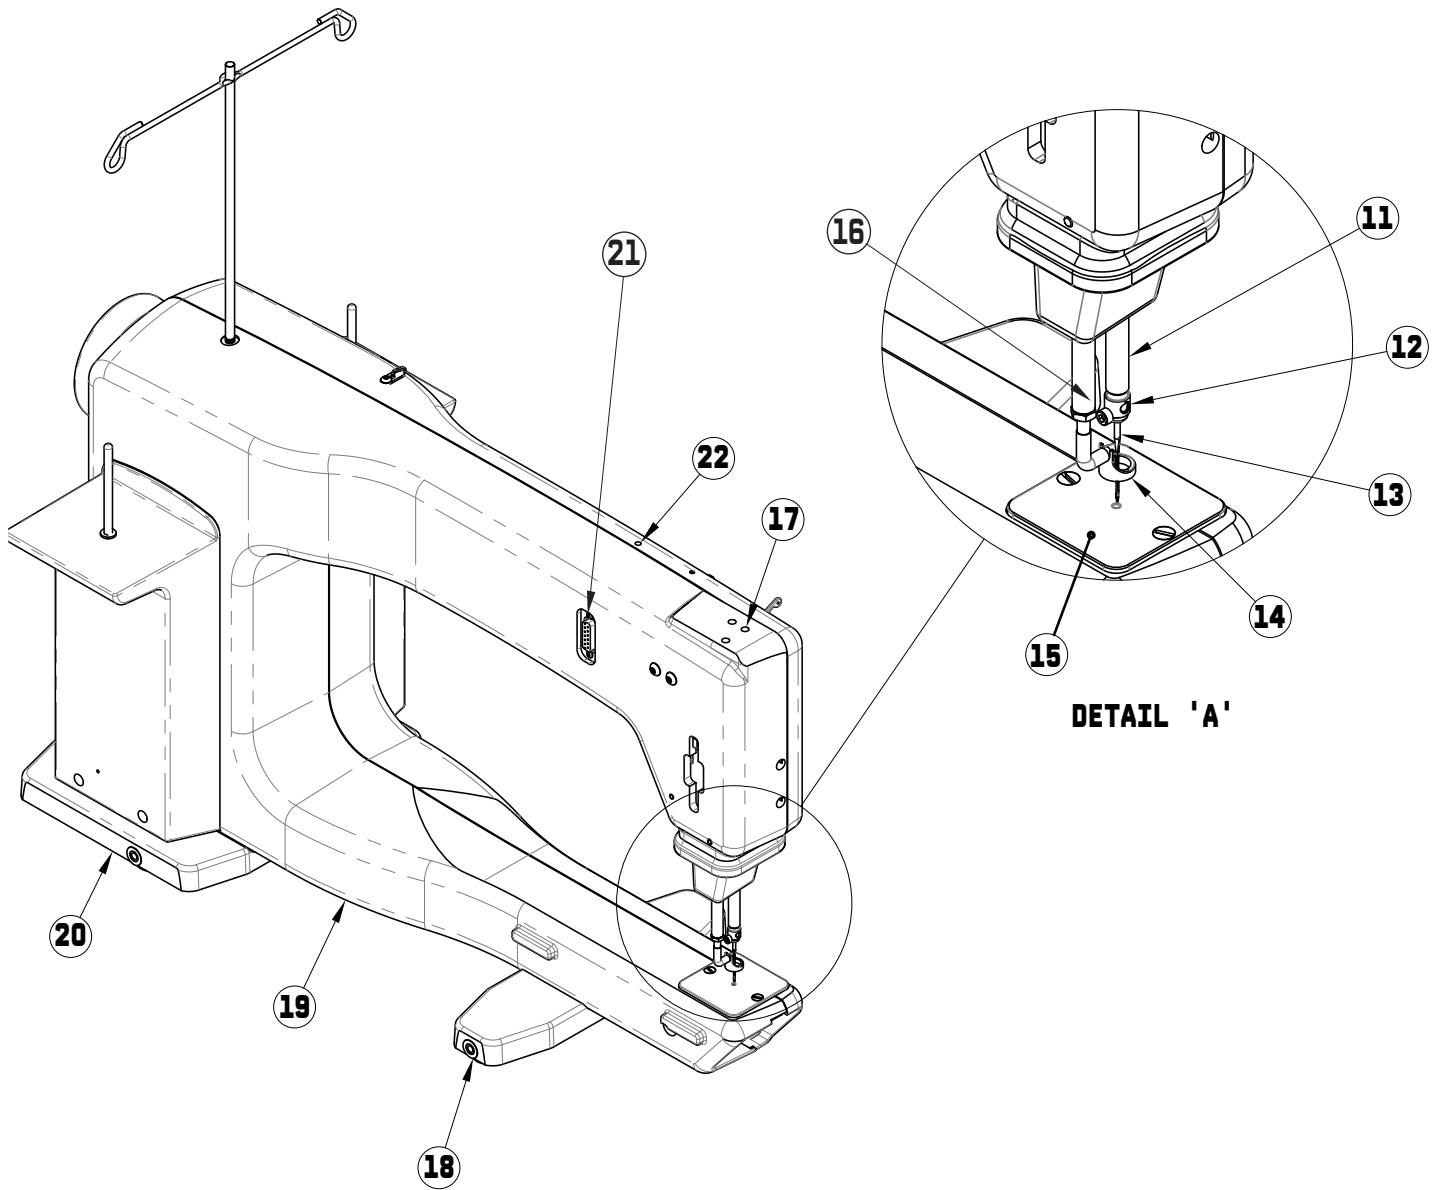

Figure 2
2. There are three holes on top of the machine head (see page 6, Figure 2, #17). Only the two holes that are in line with each other are used. Ignore the third hole located to the side of these two holes.
5. Plug the remaining cable end into the display connector located on the side of the machine (page 6, Figure 2, #21).